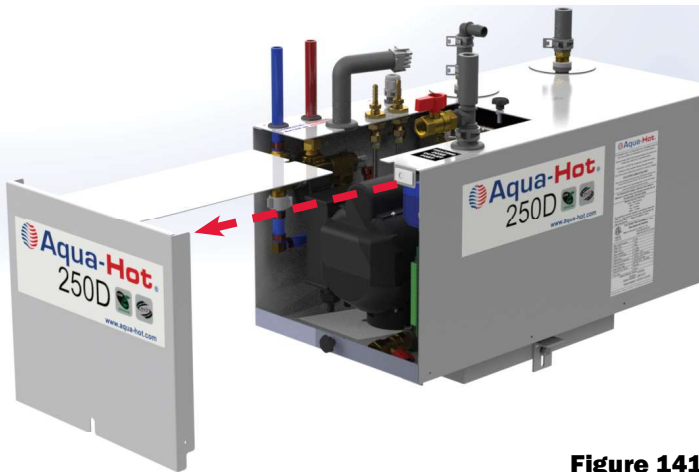

Figure 141
8. Remove the combustion chamber to gain access to the heat exchanger as shown in Figure 141.
9. Using a wire brush, scrub the heat exchanger inside the Aqua-Hot as shown in Figure 141.